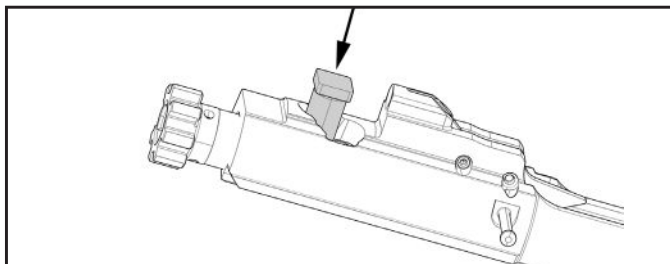

Fig. 58 – Bolt Carrier reassembly
- d. Insert the cam pin into the shaft of the bolt carrier, ensuring that the hole for the firing pin on the cam pin is aligned with the firing pin tunnels on both the bolt head and bolt carrier (Fig. 58).